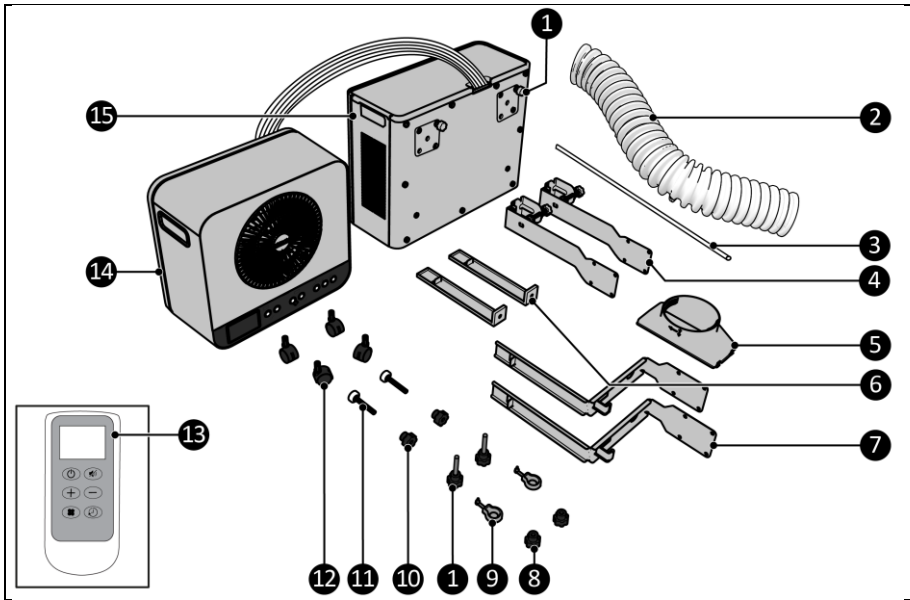
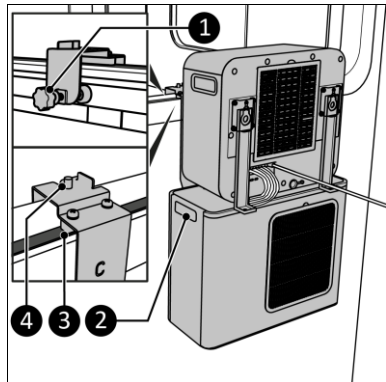
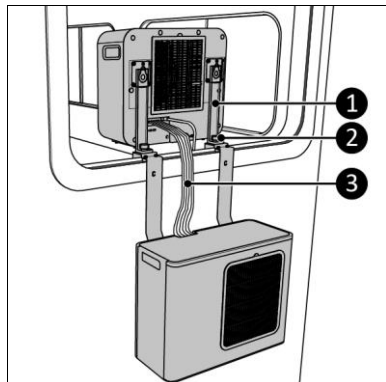

Figure 2
Figure 9
Figure 10
This EUROM device is an easy-to-use portable caravan and home air-conditioner (Figure 2). It is suitable for use in a caravan or motorhome and for indoor home use. The device provides continuous cooling and produces condensed water.
9. Place the complete unit in the window using the side handles of the outdoor unit (Figure 9, pos. 2). Make sure the gray blocks (Figure 9, pos. 3) are in the window seal.
10. Tighten the bolts (Figure 9, pos. 1) hand tight on the caravan.
11. Make sure you have the screw caps (Figure 2, pos. 8) within reach for the threads on the bracket (Figure 9, pos. 4).
12. Lift the indoor unit through the window and place the hooks (Figure 10, pos. 1) on the threaded end (Figure 10, pos. 2).
13. Tighten the screw caps (Figure 2, pos. 8) on the threads (Figure 10, pos. 2).
15. The refrigerant hose (Figure 10, pos. 3) is guided between the indoor- and outdoor unit. Avoid bending the refrigerant hose in smaller bends than 30 mm.